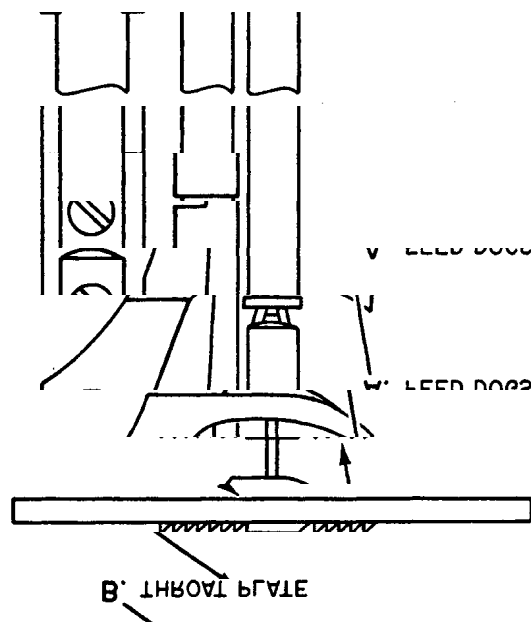

Figure 4-5.—Feed dogs.
- a. Turn the balance wheel toward the operator until the feed dog reaches its highest point (figure 4-5), and observe the relationship of the feed dog and the throat plate. If the valley between the teeth is level with the top of the throat